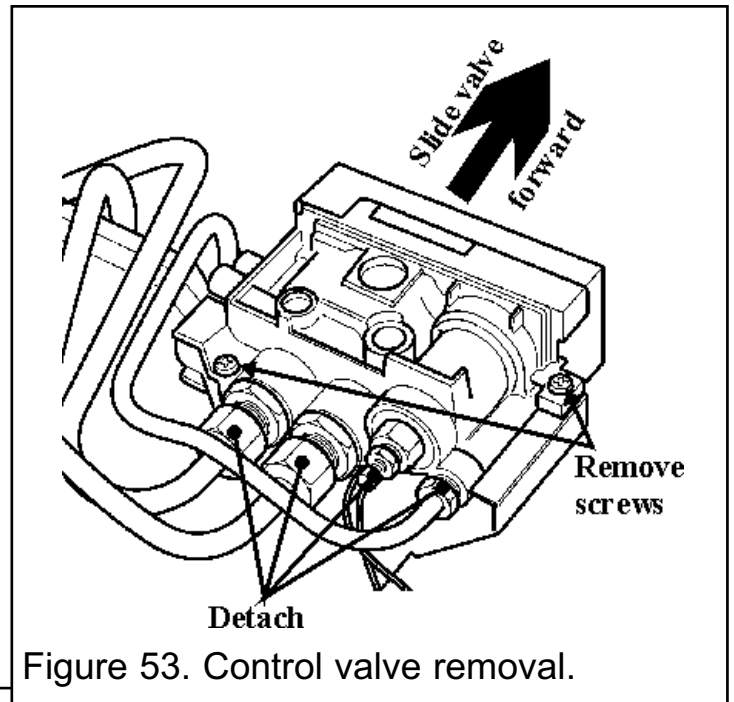

Figure 53. Control valve removal.
- Remove the two mounting screws on the underside of the gas valve (See figure 53).